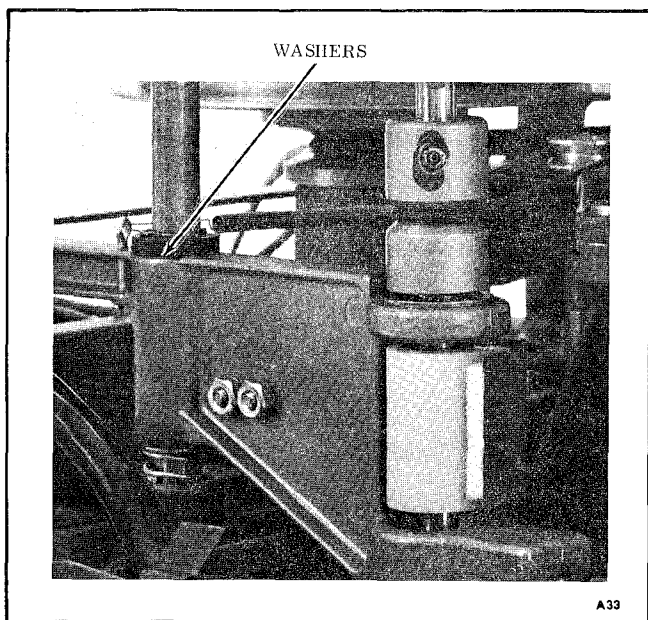

Figure 5-4. Turntable Height Adjustment
5.14 TURNTABLE HEIGHT (See Figure 5-4)